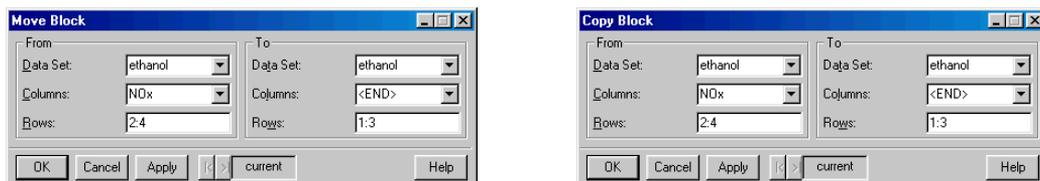

Figure 2.19: The **Move Block** and **Copy Block** dialogs.
1. From the main menu, choose **Data ► Move ► Block** to move the cell or block or **Data ► Copy ► Block** to copy the cell or block. Depending upon your selection, either the **Move Block** or **Copy Block** dialog opens, as shown in Figure 2.19.